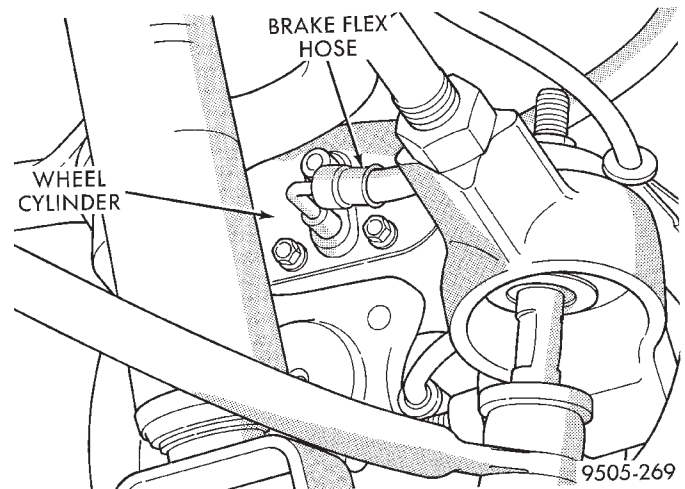

Fig. 125 Brake Flex Hose Tube At Wheel Cylinder
- (6) Disconnect rear brake flex hose tube from wheel cylinder and remove the brake flex hose bracket from the brake support plate (Fig. 125).